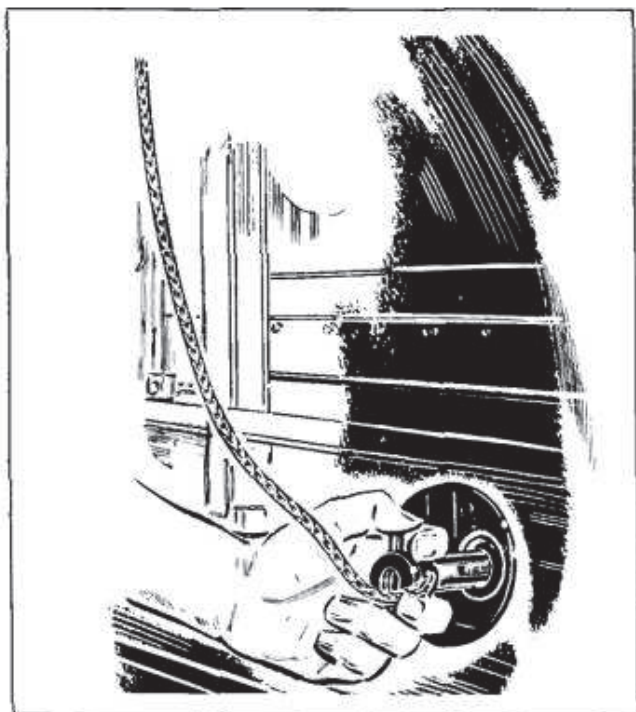

Figure 65—Locking Elevator
c. **LOCKING ELEVATORS.**—The elevators are locked with the elevator key in the same manner after lining up the hole in the elevator quadrant with the hole in the fuselage frame. The gate in the tail gun ammunition track must be opened before the elevator key may be inserted. (See figure 65.)